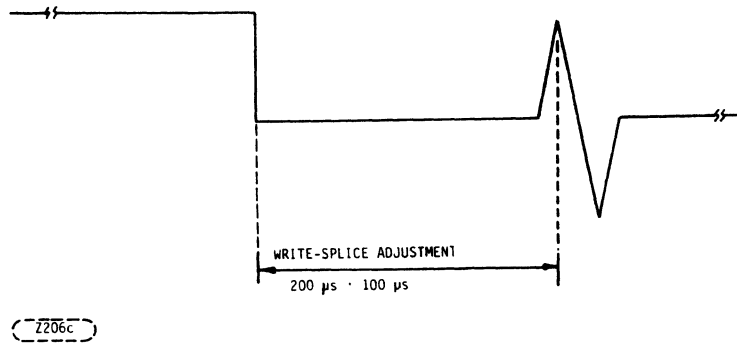
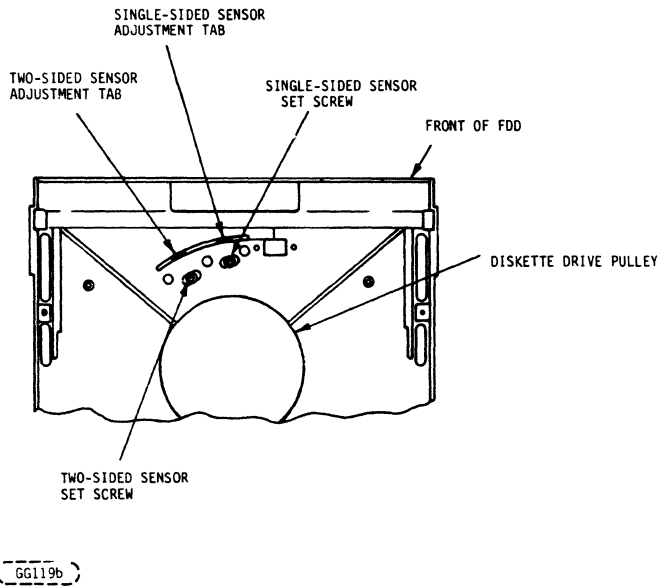

FIGURE 6-4A. WRITE-SPLICE-TIMING
FIGURE 6-4B. SINGLE-AND TWO-SIDED SENSOR ADJUSTMENT MEANS
- e. Adjust the time of the write-splice bit until it measures per $200 \mu\text{s} \pm 100 \mu\text{s}$. Refer to Figure 6-4a to adjust the time, loosen the single-sided sensor set screw holding the (single-sided-sensor) phototransistor located on the bottom of the chassis toward the front of the unit, (Figure 6-4b). Using the adjustment tab protruding through the casting, move the phototransistor until the specification is met. Tighten the set screw while observing the scope signal. Verify that the adjustment did not change.